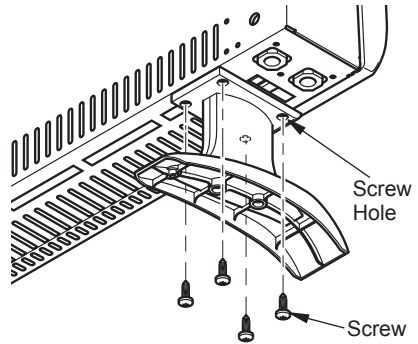

Figure 13 - Attaching Base Feet to Heater
4. Align four screw holes to the base of the heater and attach it by using Phillips head self tapping screws (provided) (see Figure 13).